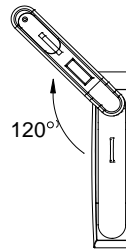

Figure 2-14 Rotating the handle
3. Turn the handle 120° counterclockwise, as shown in Figure 2-14. And then pull the handle out until the door is open.